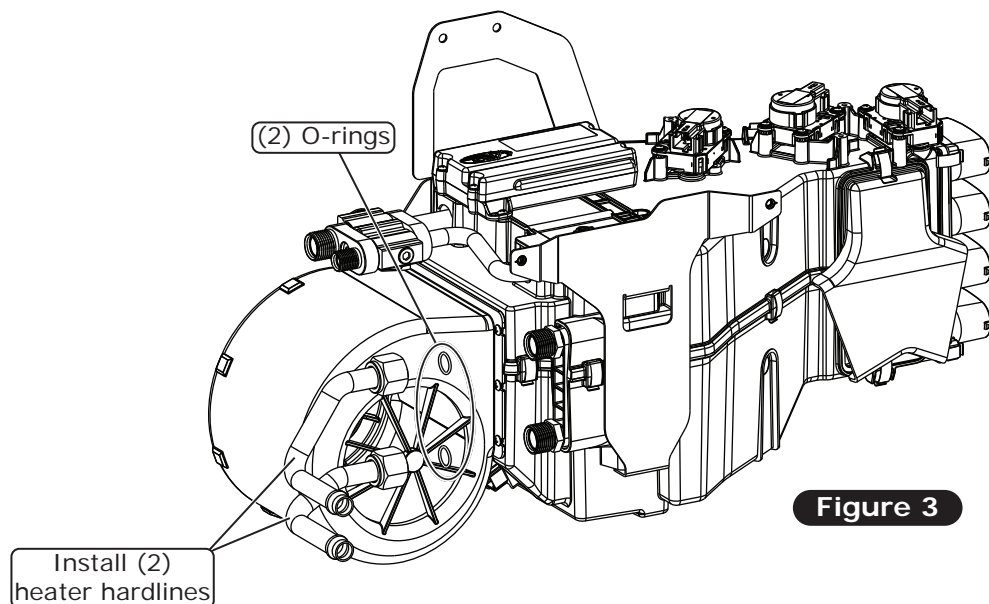

Figure 3
8. Install the (2) heater hardlines with properly lubricated O-rings (See Figure 3, below and Lubricating O-rings, Page 13). **NOTE: When removing caps from the module, be careful! The module is shipped under pressure.**